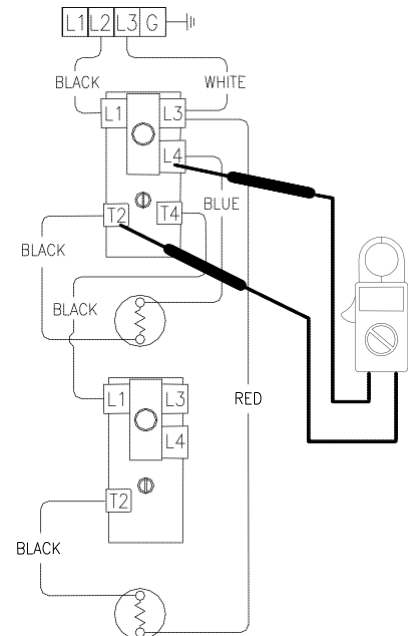

Figure 11
5. Check across terminal L4 & T2 of upper thermostat (see Figure 11).